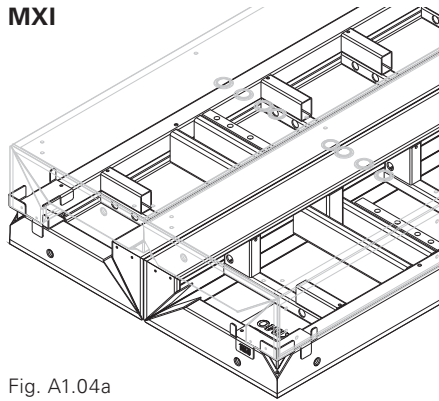

Fig. A1.04a
- four shaft corners: install stacking aids only on the corners. (Fig. A1.04a)